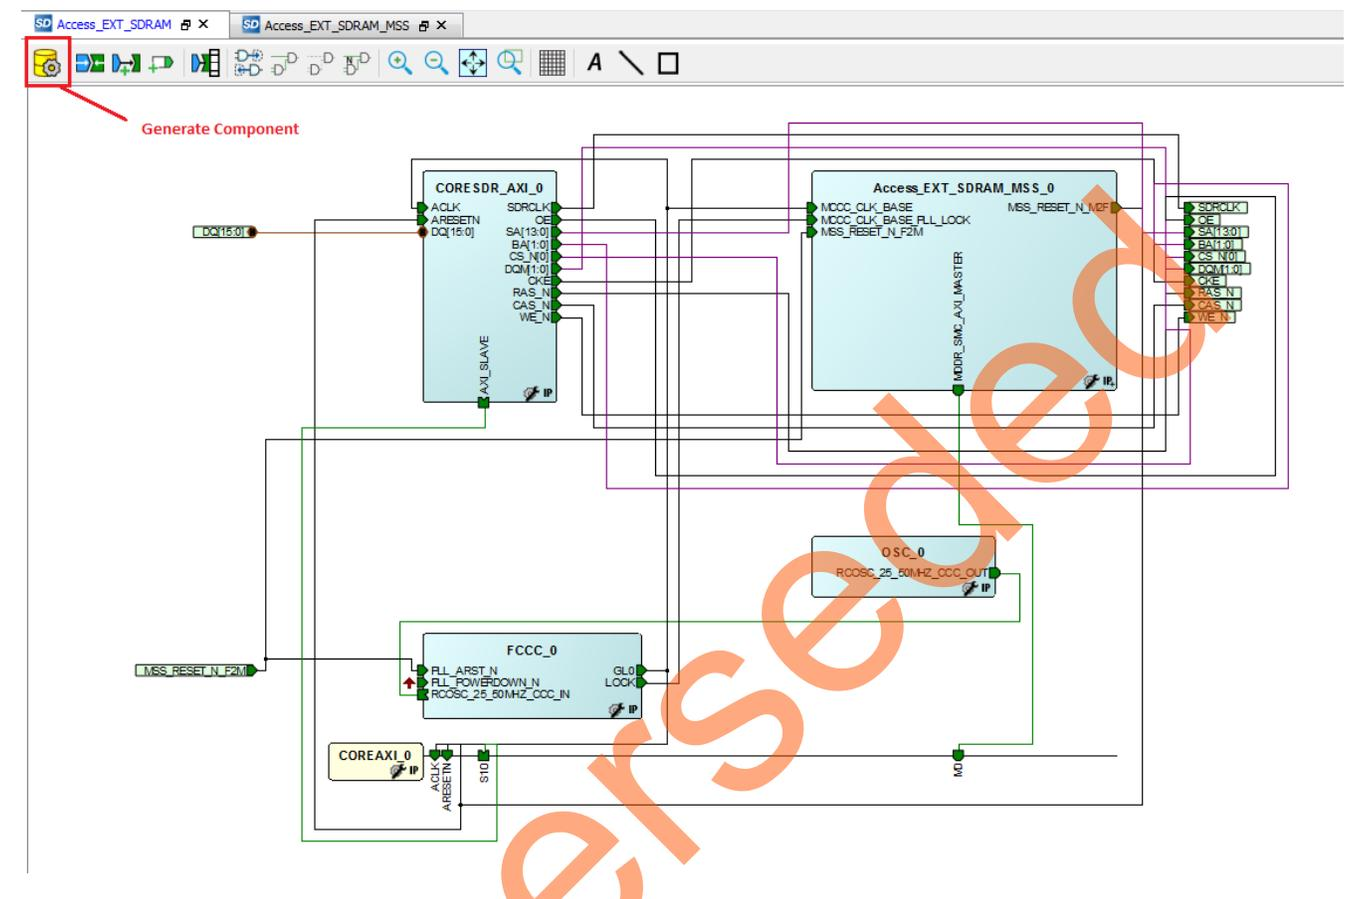

Figure 25. Generating MSS Component
1. Select the **Access_EXT_SDRAM** tab on the **SmartDesign** canvas and click **Generate Component** on the SmartDesign pane, as shown in Figure 25 or select from **SmartDesign > Generate Component**.